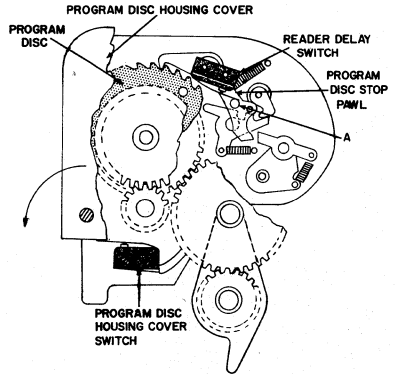

Figure 6
Program Disc Housing Cover Switch (Figure 6)
The limit switch is connected in series with the SCRT contacts in the Flexowriter to keep the reader stopped during the line feed or form feed operation. The limit switch is actuated by the program disc stop pawl being pivoted out of the program disc (Figure 6) by stud (A).
Note: The projection (downward) on the intermediate gear support plate can be moved in conjunction with the tie link knob to facilitate meshing the gears (Figure 6).